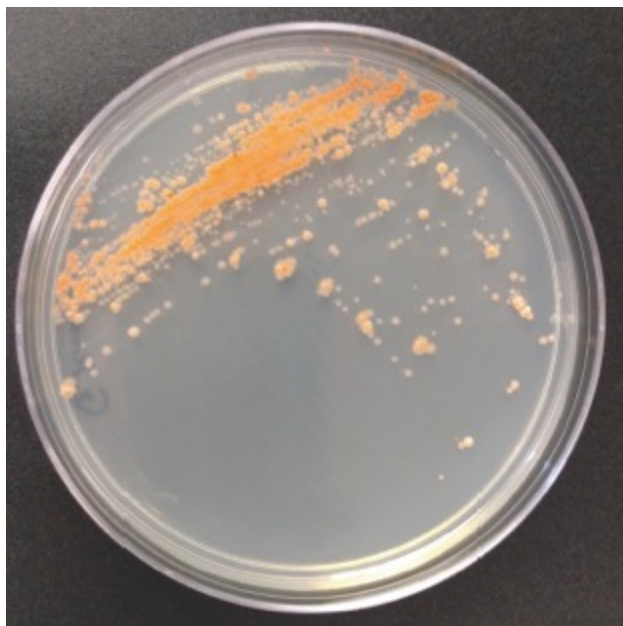

Figure 4.0-4. *Gordonia terrae* growing on an agar plate.
G. terrae colonies are tan to orange in color, round, rough and dry in texture (Figure 4.0-4). When incubated for prolonged periods, the color of the colonies intensifies. A liquid culture of *G. terrae* inoculated from a single colony will take 2 – 3 days to form a saturated liquid culture, exhibiting a tan to orange color. The strain you will work with, *G. terrae* CAG3, is not inhibited by the antifungal cyclohexamide, or the antibiotic ampicillin at low concentrations. Therefore, this can be added to the growth media to prevent other microorganisms from growing in your cultures.